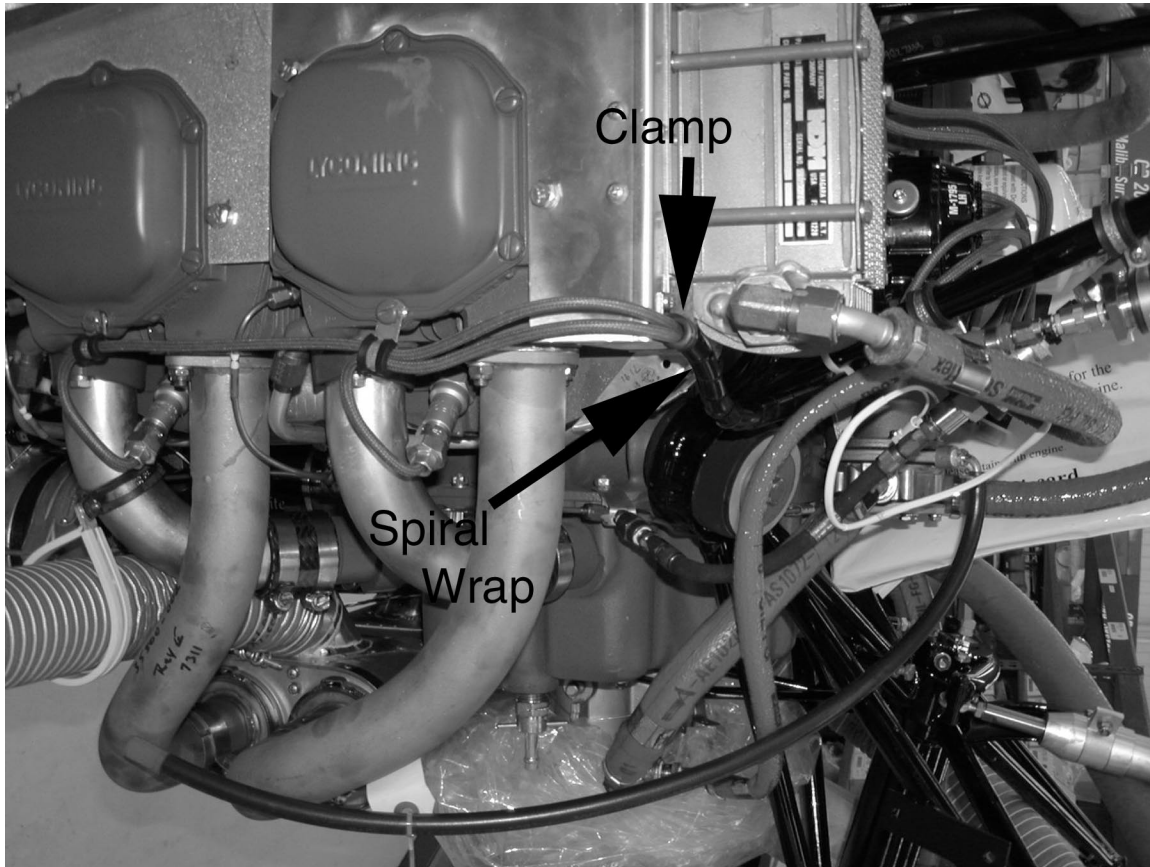

Figure 1
It has been discovered that the ignition cables shown in Figure 1 are sometimes improperly secured when they have been removed for maintenance. If these cables are improperly routed and secured upon re-installation, they may interfere with the oil cooler.
1. Remove upper engine cowling. Check the ignition cables and clamp indicated in Figure 1. Ensure the cables do not contact or rub against the oil cooler.
3. Check for the protective spiral wrap. If the spiral wrap is missing, install an eight (8) inch strip of spiral wrap around the ignition wires from the clamp toward the magneto.